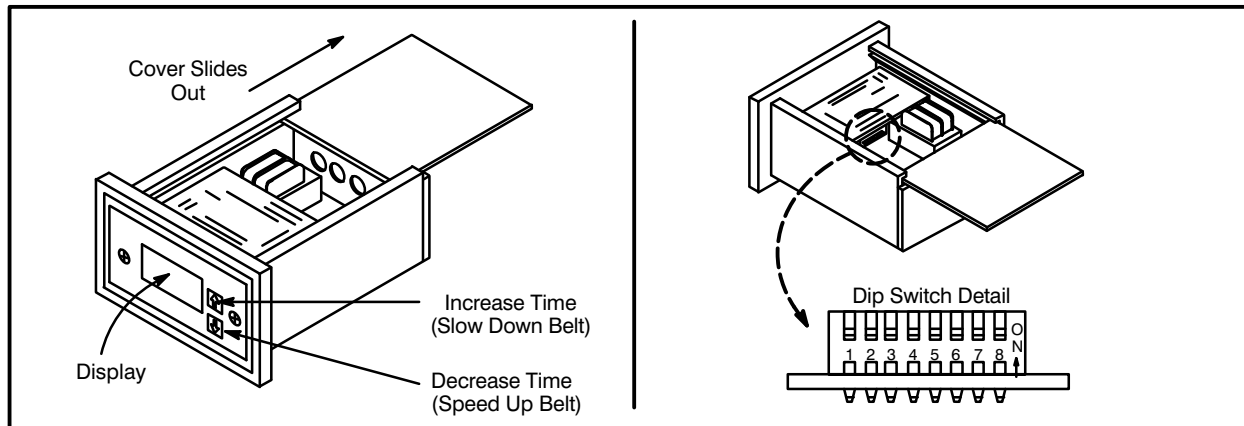

FIGURE 4
1. Remove the top cover from the unit. The internal dip switch is located next to the transformer. See FIGURE 4.